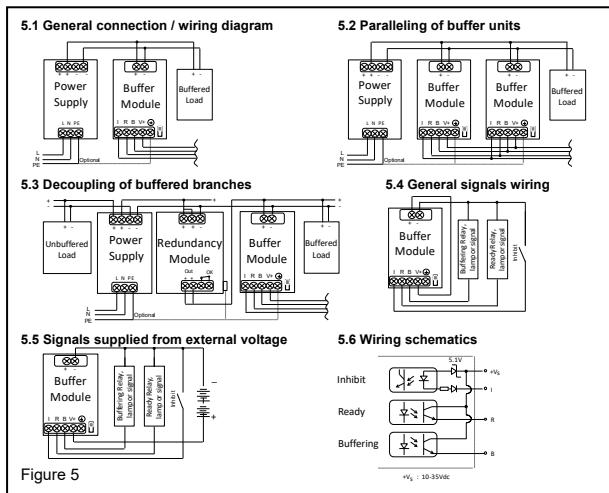

Figure 5
6. Typical application notes (Fig. 5)